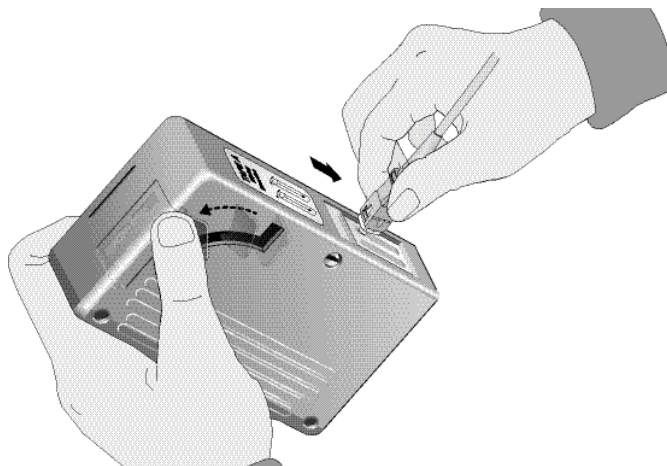

Figure 47. Rubbing the Ferrule Tip on the Cleaning Surface
1. With one hand, hold the cartridge cleaner and push the lever on the cleaning cartridge in the direction of the arrow to expose the cleaning surface, as shown in Figure 47.
2. Place the ferrule tip on the exposed cleaning surface and rub the ferrule in a downward direction, as shown in Figure 47.